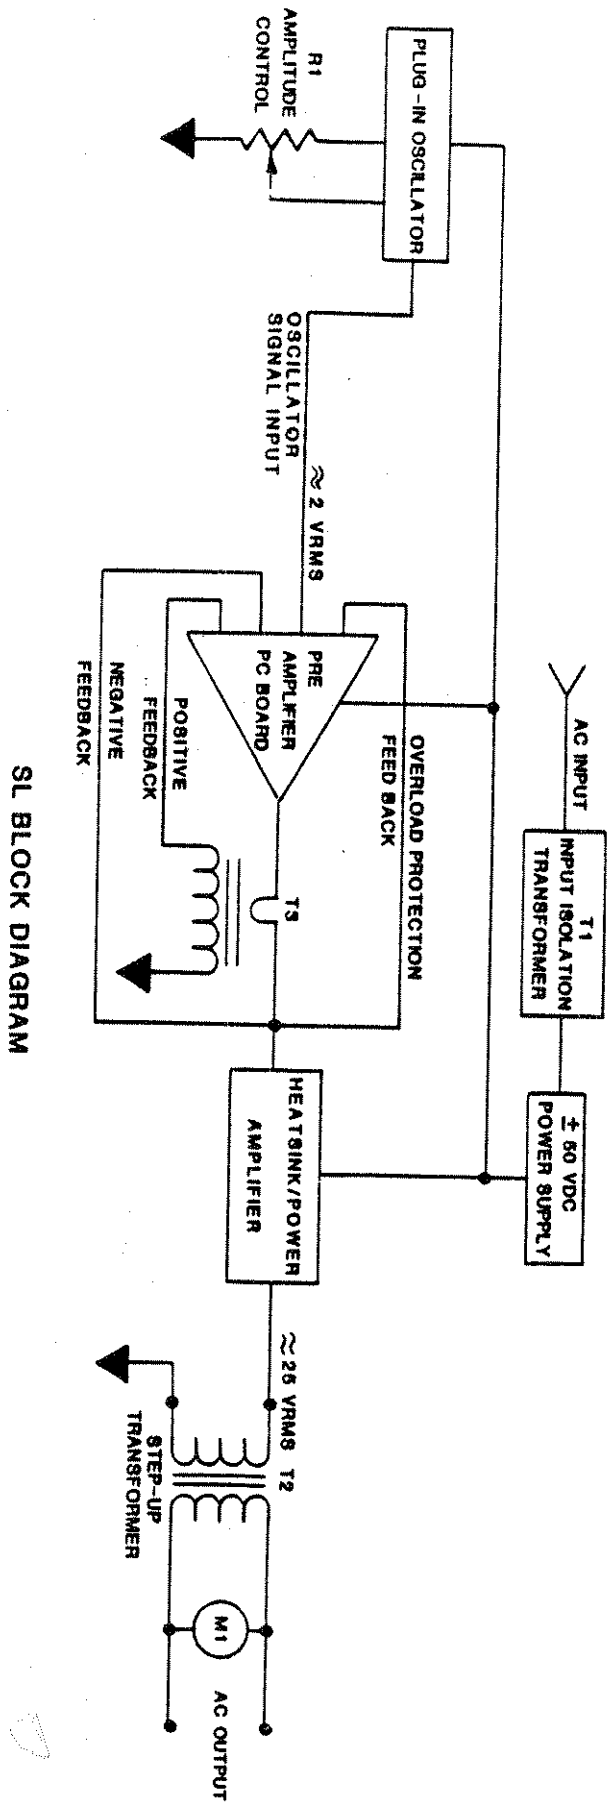

FIGURE 4-1
4.1.1     Block Diagram. Figure 4-1 outlines the fundamental components of the power amplifier described hereafter.